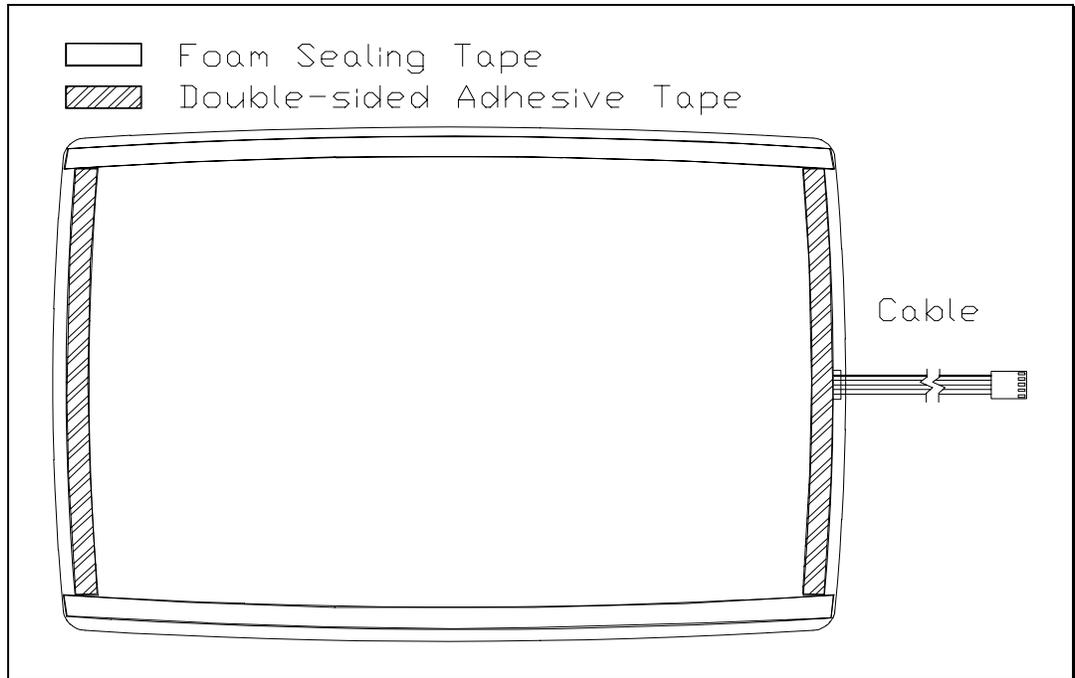

Figure 4-2. Rear View of an AccuTouch Touchscreen with Mounting Materials
- Use two layers of the double-sided adhesive tape to achieve a total thickness of 1/16-inch (2 mm). While specific touchscreen and CRT combinations may allow the use of thinner materials, 1/16-inch (2 mm) is generally necessary to allow for variations in ROC between the two glass surfaces. Review the fit between the touchscreen and the CRT before applying the tape. If one pair of opposite edges has a closer fit than the other, put the adhesive tape on the edges of the touchscreen with the better fit. See Figure 4-2 for typical placement. If there is a good fit on all four edges, you may want to use double-sided adhesive tape on all four edges. When doing this, move the adhesive tape in slightly on one pair of edges and add foam sealing tape outside these two edges. The thicker foam tape will keep the adhesive tape away from the CRT until you are ready to adhere the touchscreen to the display.
- Cut and place the foam sealing tape on the back of the touchscreen to form a dust seal as shown in Figure 4-2. This seal is particularly important because the CRT is a good electrostatic precipitator and will attract dust. The adhesive tape and foam sealing tape should form a complete seal around the touchscreen. Do not leave any gaps. The sealing tape should not be visible when the display is reassembled.